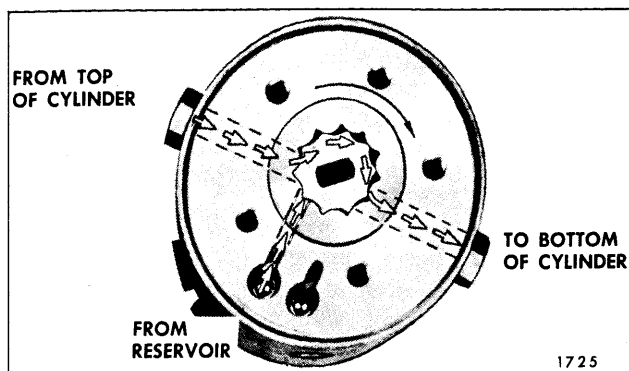

Fig. 6-62—Operation Of Pump To Raise Top
- Raising the Top.** When the red motor lead is energized the motor drive shaft turns the rotors clockwise as indicated by the large arrow in Figure 6-62. The action of the pump rotors forces the fluid under pressure to the bottom of each cylinder forcing the piston